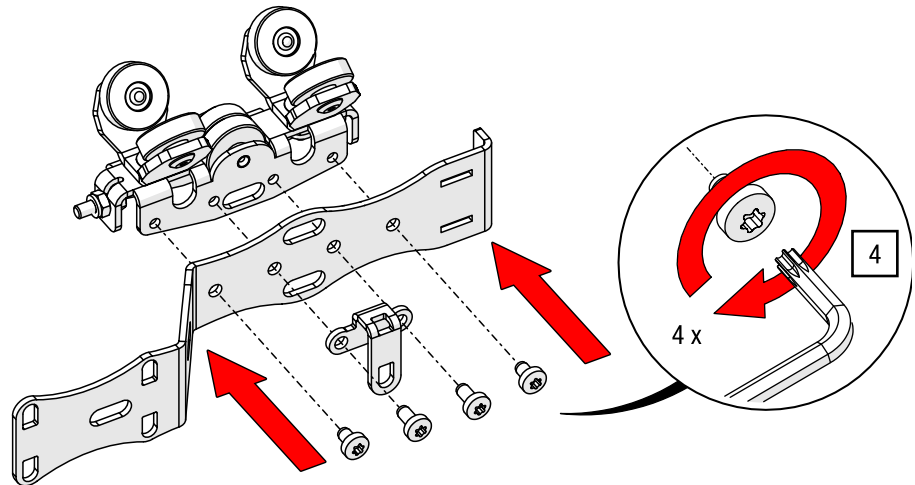

Fig. 61: OFFICE master runner overlap arm – Mount overlap arm and eyelet plate
4. Position one overlap arm with a lateral eyelet plate on the master runner and screw them tight using a TORX®-key T20 until the plate is flush with the master runner (see Fig. 61).